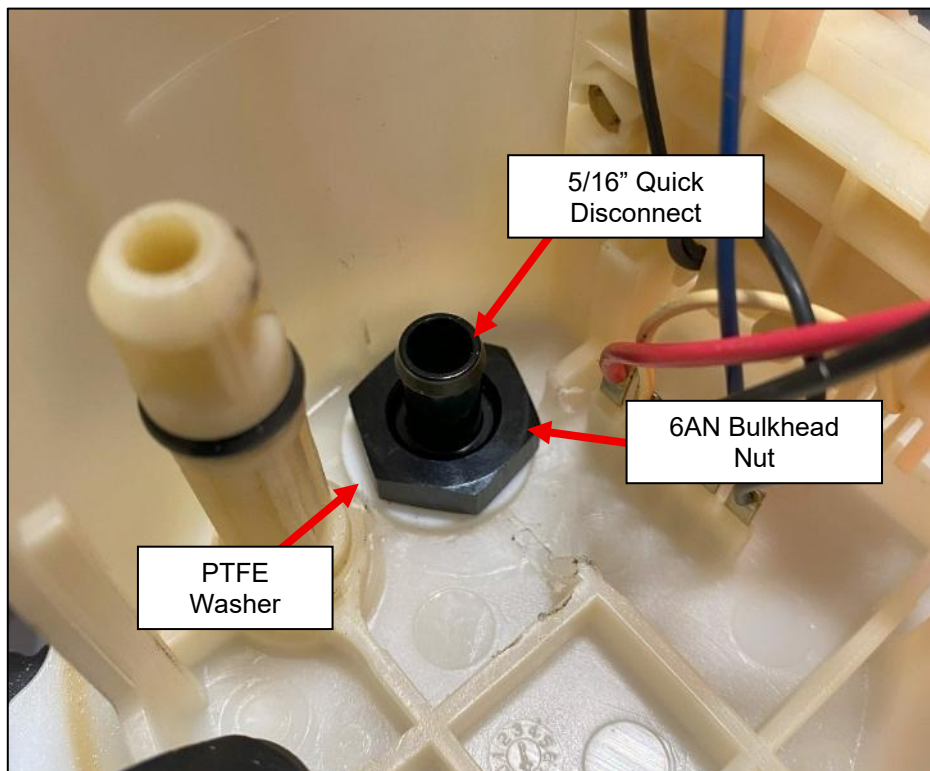

Figure 27
20. Place the other PTFE Washer on the underside of the Basket Assembly and secure with the 6AN Bulkhead nut. *Figure 27.*